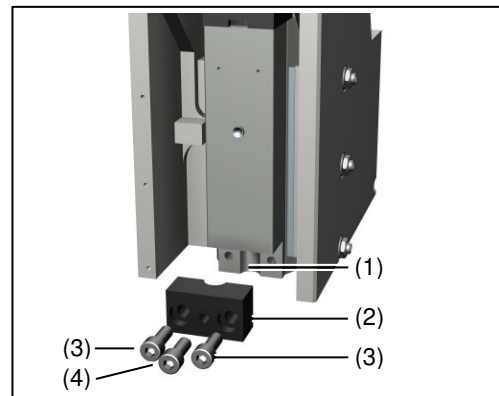

Fig. 10 Clamping of tool
- ▶ Insert the clamping pin of the tool into the half-shell of the clamping bore (**Fig. 10**, Pos. 1). When doing so, firmly press upper part of tool fest against bottom side of the ram.
- ▶ Insert clamping piece (**Fig. 10**, Pos. 2) and tighten both stretching screws (**Fig. 10**, Pos. 3) firmly again.
- ▶ Screw the dog-point locking screw (**Fig. 10**, Pos. 4) against the clamping pivot to avoid that the tool can be pulled out.